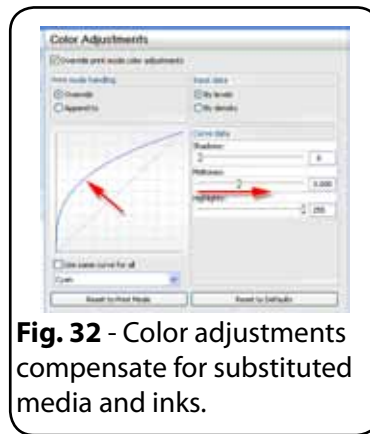

Fig. 32 - Color adjustments compensate for substituted media and inks.
- **Color and Image Adjustments** – These adjustments to the color and image settings can compensate for non-standard media and inks (Fig. 32), where the cost of producing a new media profile is otherwise prohibitive.